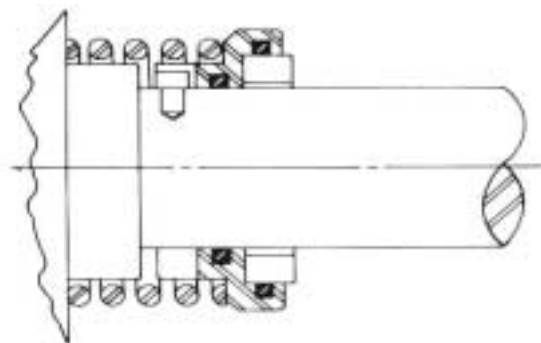

FIGURE 10
7. Place seal spring on shaft against rotor hub. **Refer to Figure 10.**